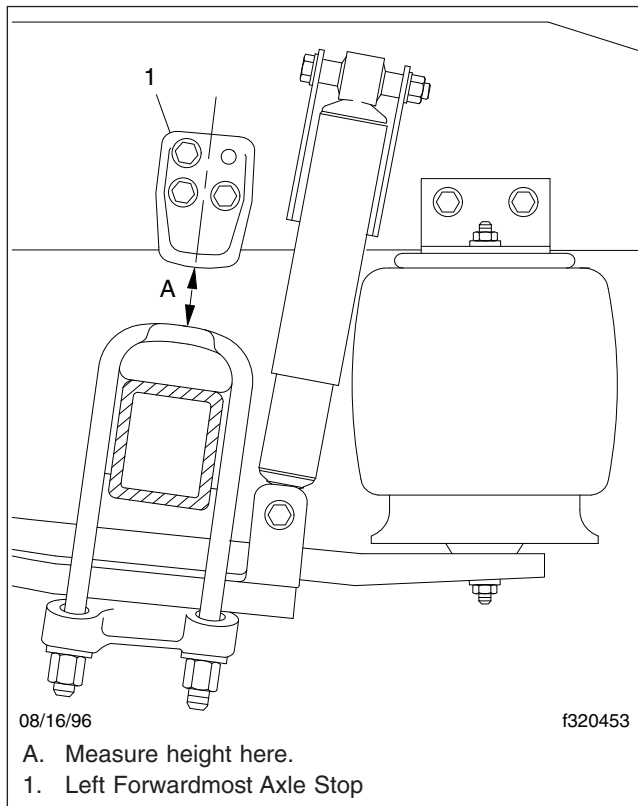

Fig. 7, AirLiner Axle Stop Measurement
4. On single-drive rear axle configurations, measure the distance from the bottom of the left axle stop to the top of the U-bolt pad. On tandem (dual-drive) rear axle configurations, measure the distance from the bottom of the forwardmost left axle stop to the top of the axle U-bolt pad. See **Fig. 7**, Ref. A. The correct distance for single